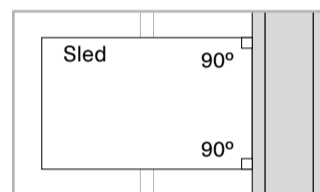

Fig 1b - Square sled 90° to rip fence
- 1.2 Set your sled base square (90°) to the rip fence [Fig 1b].